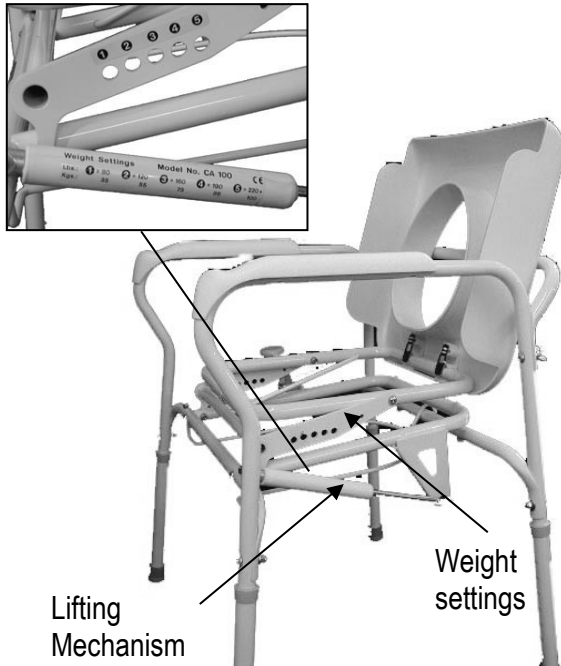

Figure C1
- Lift the **Plastic Seat** upright in order to provide easy access to the weight setting area (*Figure C1 and C2*). Note: Be careful to only raise the seat upright at a 90 degree angle, letting it stand in the upright position; putting force on the seat to go back against the back rest may cause the clips holding the seat to the lifting assembly to break.